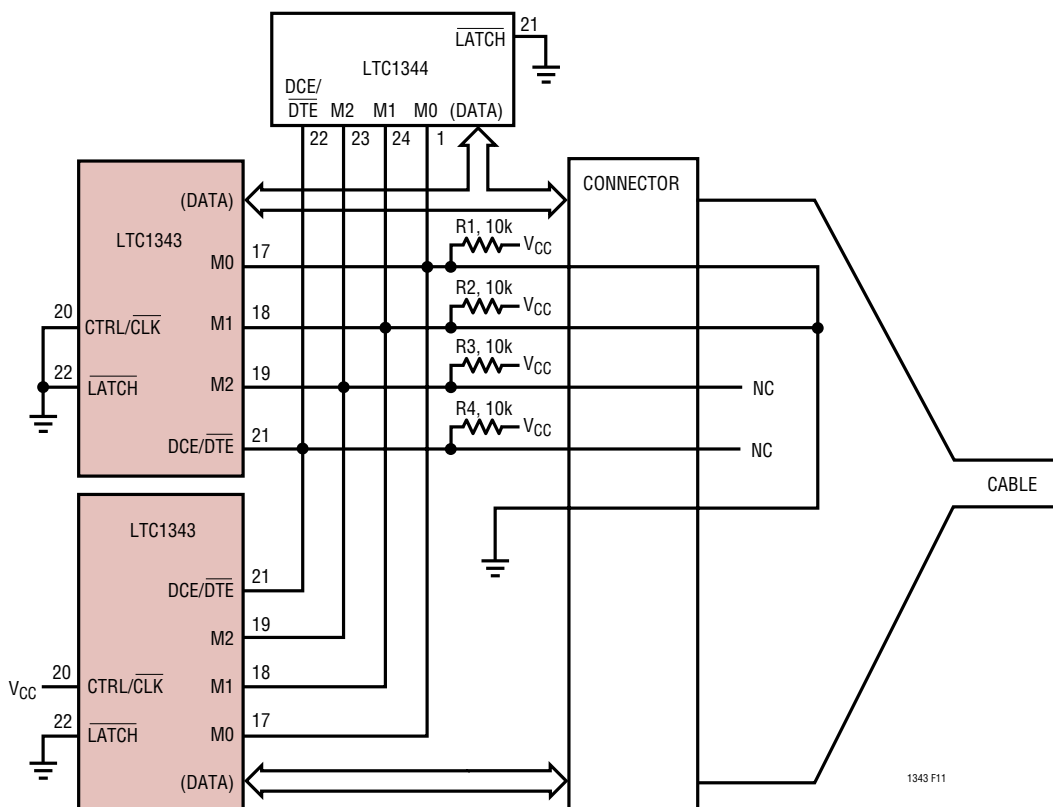

Figure 11: Single Port DCE/V.35 Mode Selection in the Cable
The interface protocol may be selected simply by plugging the appropriate interface cable into the connector. The mode pins are routed to the connector and are left unconnected (1) or wired to ground (0) in the cable as shown in Figure 11.